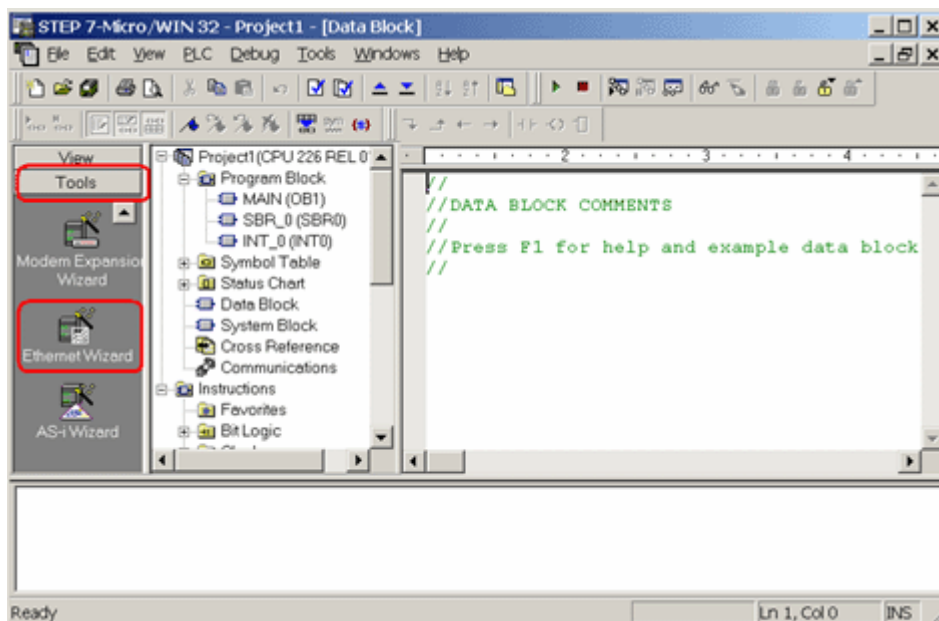

Figure 1: Step 7 - Micro/WIN32 - Project1 Dialog Box.
1. Start Step7-Micro/Win 32. Create a new project or load your existing one (Figure 1 below):